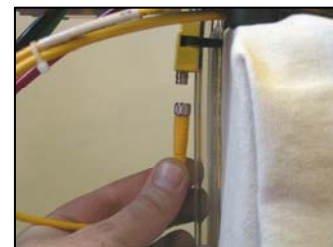

FIG 6
8. Attach the connector to the Fastener Presence Sensor as shown. (FIG 6)